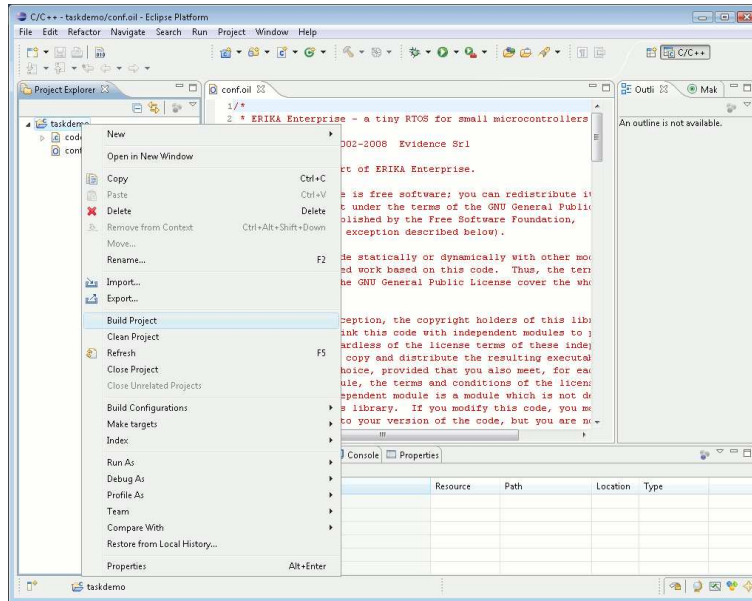

Figure 5.4: We are now able to build the project.
5. We are now ready to build the demo. Right click on the project name in the Eclipse navigation bar, and choose “Build Project”¹ (see Figure 5.4).